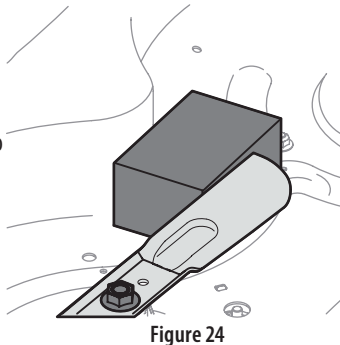

Figure 24
- Place a block of wood between the deck housing baffle and the cutting blade to act as a stabilizer. See Figure 24.